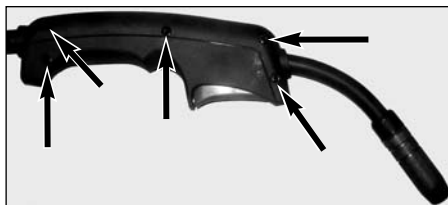

Figure 2 - Remove these five screws
3. Disassemble torch handle by removing five screws (see figure 2).